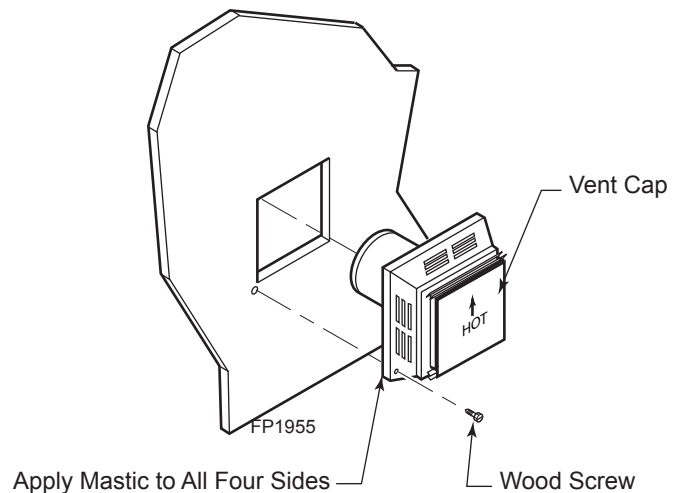

Figure 17 - Installing Horizontal Termination
4. Apply a bead of non-hardening mastic around the outside edge of vent cap. Position the vent cap in the center of hole on the exterior wall with the word "UP" on the vent cap facing up. Insure proper clearance of 1" to combustibles is maintained to the flue. Attach the vent cap with four wood screws supplied. *Figure 17*